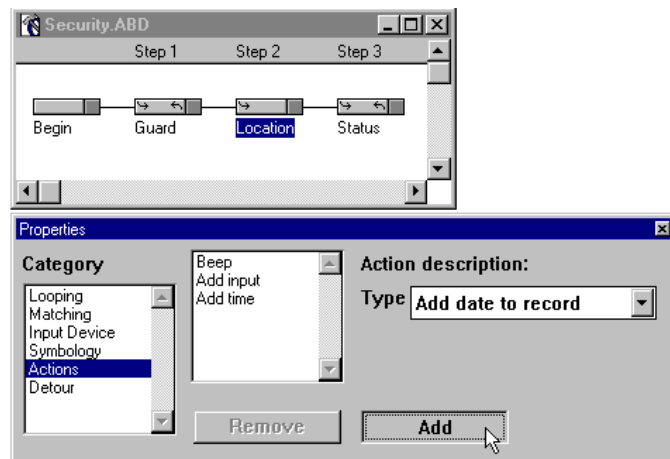
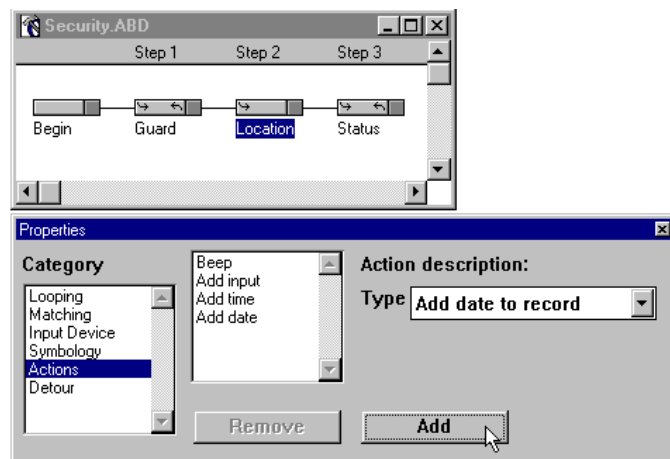

Figure 3-42 Actions Property - Add Action to Action List
Figure 3-43 Actions Property - Action Added to Action List
37. Click **Add** (Figure 3-42) to add the **Add date to record** action to the action list (Figure 3-43).